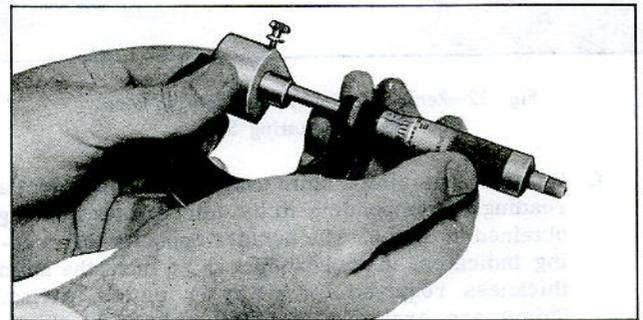

Fig. 20—Measuring Gauge J-6266-19 with Micrometer
- Using a 2" micrometer, measure the gauge plunger and record this reading (fig. 20).